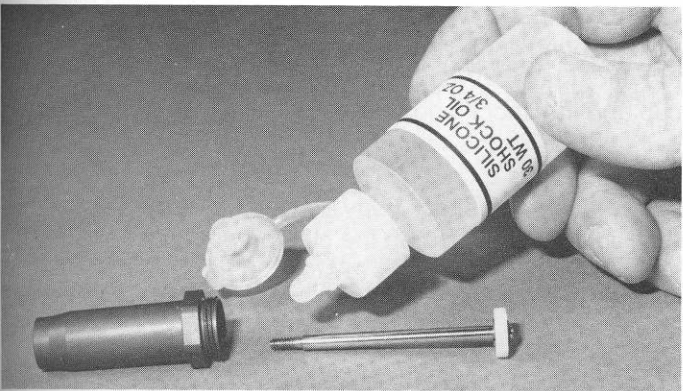

Fig. 122
□ **Fig. 122** We will now install the shock shafts with pistons and spacers. (3) Place a couple of drops of oil on each shock shaft, and (4) slowly insert the shaft and piston into the shock body. Be sure to install the long shock shafts in the long shock bodies and the short shock shafts in the short shock bodies. (5) Pull the shaft down until the piston seats against the bottom of the shock body. Be careful inserting the shaft, for we do not want to damage the red O-rings and cause the shock to leak.